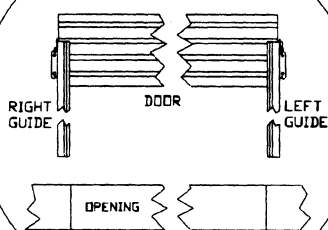

FIGURE 3
- B. On inside of building, place left guide on floor perpendicular to opening with guide bottom close to the left jamb and the top toward inside of building. Do the same with the right guide to the right jamb. See figure 3.
- C. Place door on floor at top of and between guides. Rotate door as necessary to locate bottom bar against floor. See figures 3 and 4.